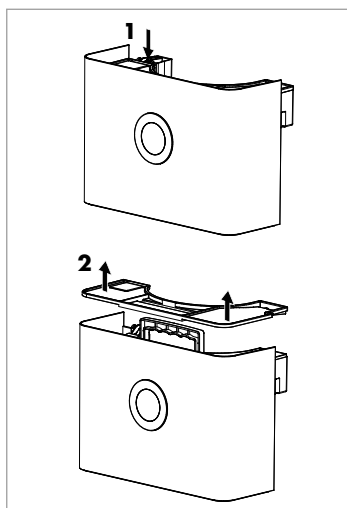

Fig. 2
- ◆ To lift off the lid of the water tank **5**, press up the float switch (1) and then remove the lid (2), as shown in Figure 2. Pour out the water, and insert the water tank **5** with fitted lid back into the appliance. Fold down the handle of the water tank **5** while doing so. The appliance resumes operation with the previously selected programme.